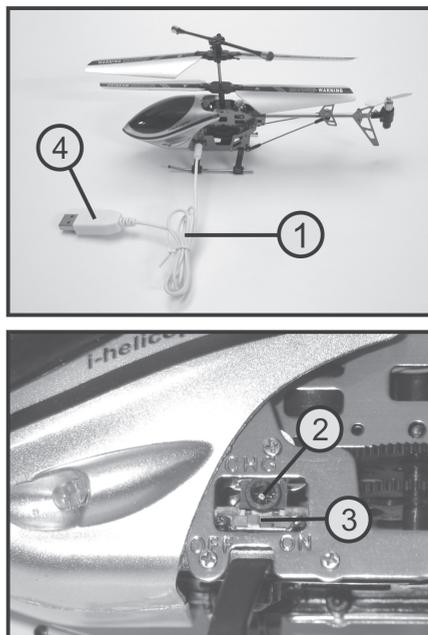

Figure 3
To switch on the model helicopter, slide the helicopter function switch (see figure 3, item 3) from the front position "OFF" to the rear position "ON".